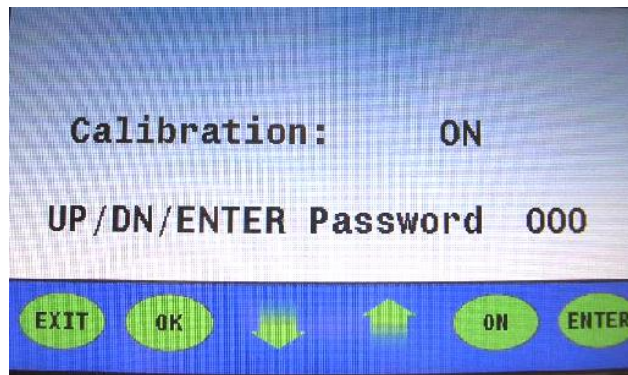

Figure 4
8. Press the up or down arrow once and three “0”s / (000) will show up to the right of the word “Password”. **(Figure 4)**